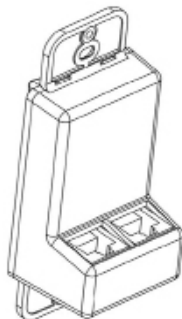

Figure 1
- C. Route the patch cord from the room controller to enter the RJ45 port on the switch (See Figure 1). NOTE: Low voltage wiring must be isolated from line voltage wiring. Consult national and local electrical codes for the appropriate conduit requirements.